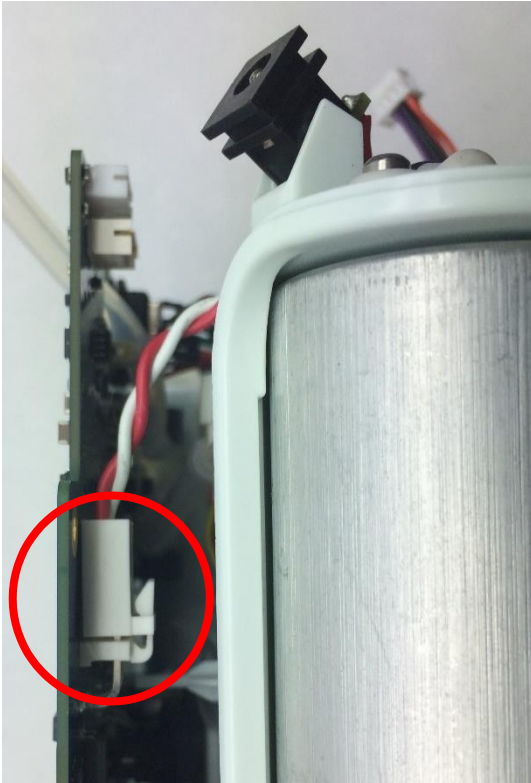

Figure 6: Power Cable
2. Slightly pull the motherboard away from the chassis, taking care not to overextend any of the cable harnesses. Locate and disconnect the power cable from the connector on the motherboard (Figures 6 and 7). Remove the power cable.